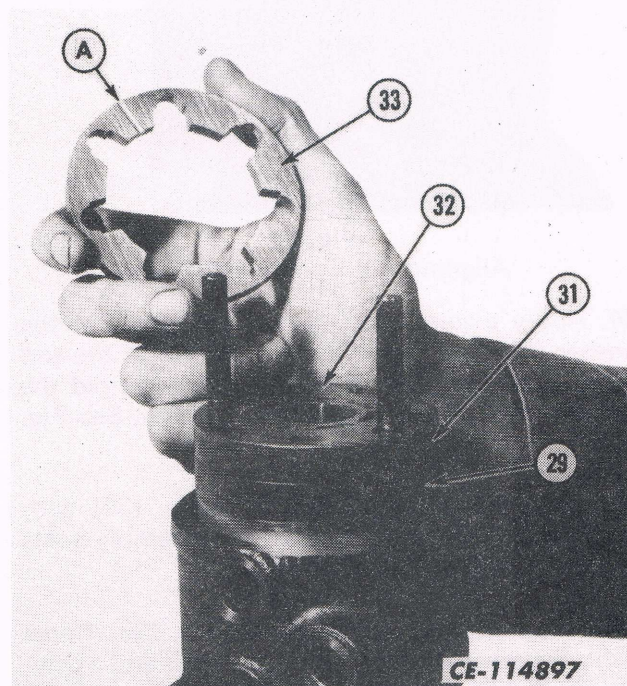

Fig. 24
21. Install the commutator ring (33) over the assembly posts and onto the manifold (32). Make sure the slot side "A" is down. See Fig. 24.